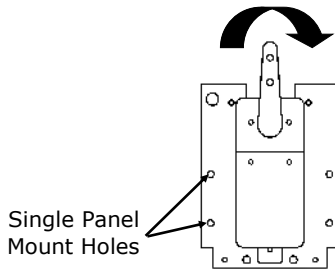
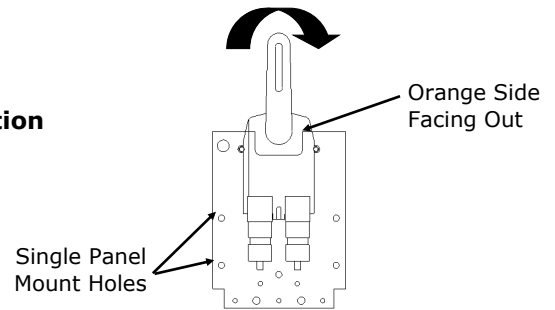

Figure 6
Figure 7
- 1) Position the shutter motor on the bracket as shown in Figure 6 or Figure 7, depending on shutter motor model.